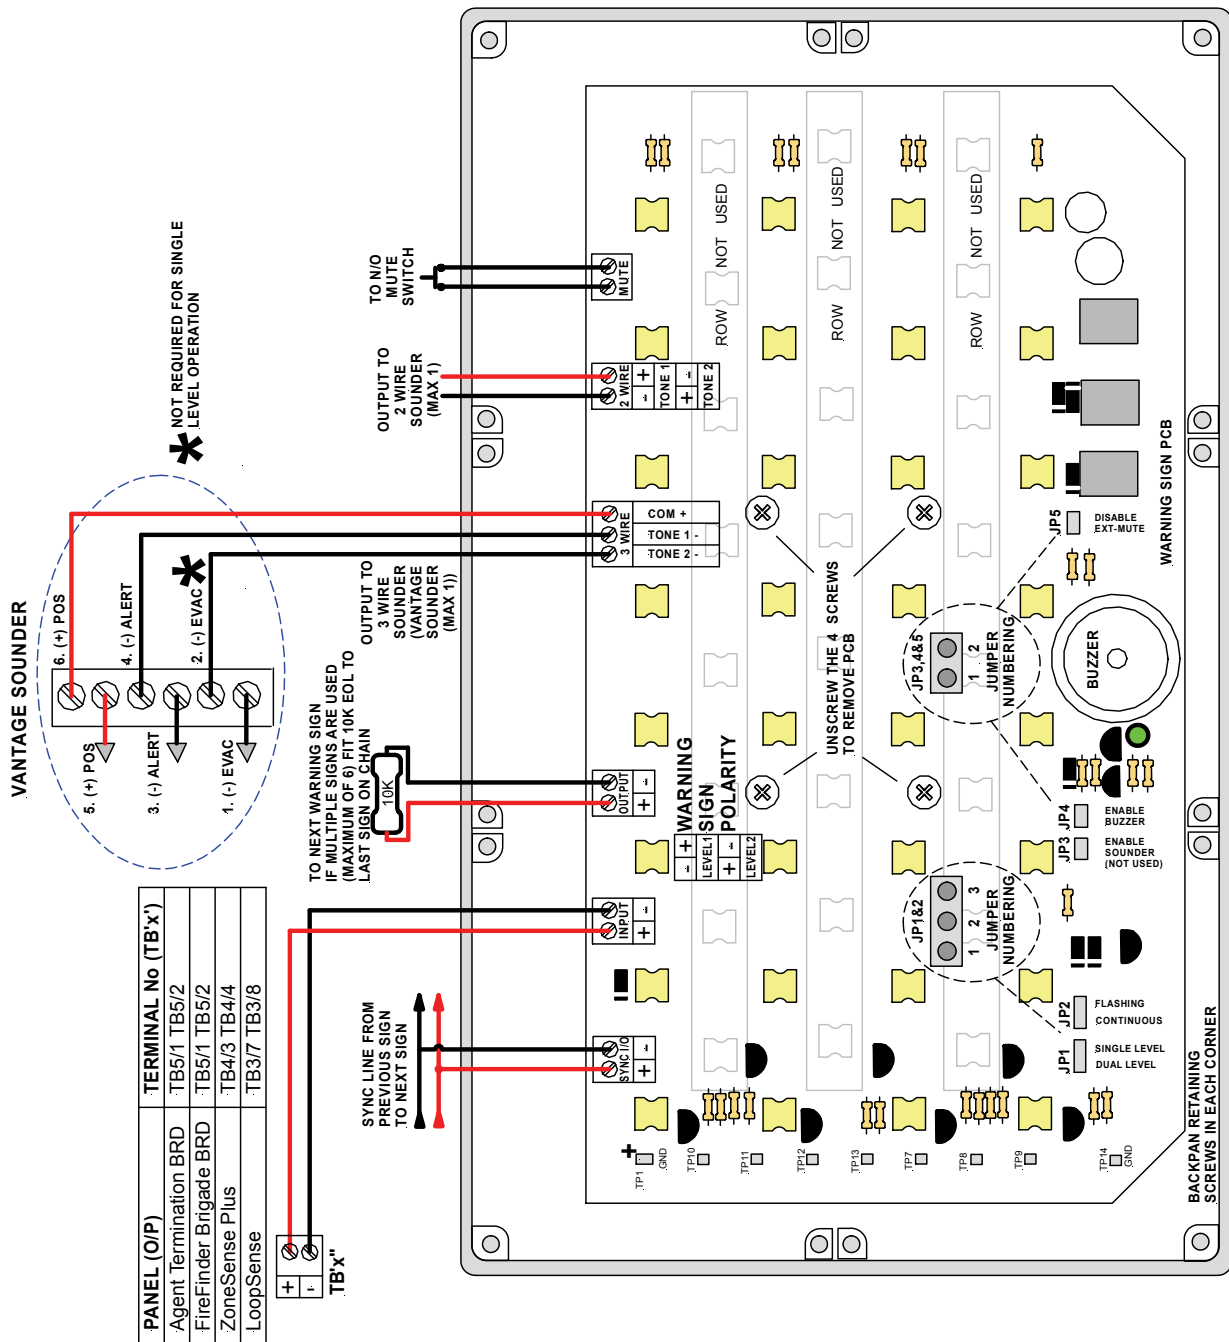

Figure 1: Warning Sign General Wiring and Link Options
7. Connect wiring as per Figure 1